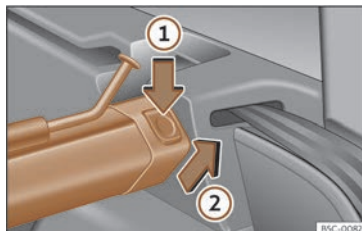

Fig. 182 In the boot: removing the partition net.
- Press the left or right release catch >>> **Fig. 182** in the direction of the arrow ①.
- Remove the casing from the support in the direction of the arrow >>> **Fig. 182** ②.
- Press the casing into the left and right supports in the opposite direction to the arrow >>> **Fig. 182** ② until it engages. The red markings on the release buttons should no longer be visible.